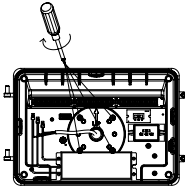

Figure 6
6. Lock the back shell on the mounting seat with screws, Connect the L, N and G wires to the power supply refer to installation instructions. (Figure 6)